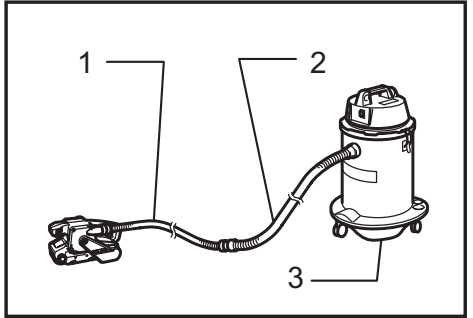

Fig.6
- **Fig.6:** 1. Optional hose 28 mm in inner diameter